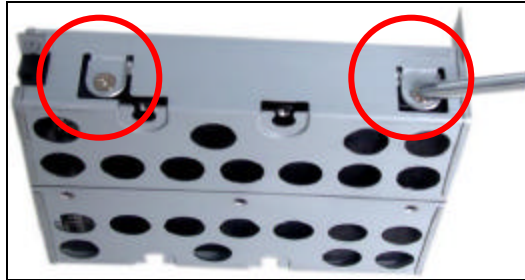

Figure 3.3.2
- ii. Loosen the screws, two one each side, as shown in [Figure 3.3.2] for removing the HD metal bay. And now, you can insert a new HD into this rack and fix it in position.